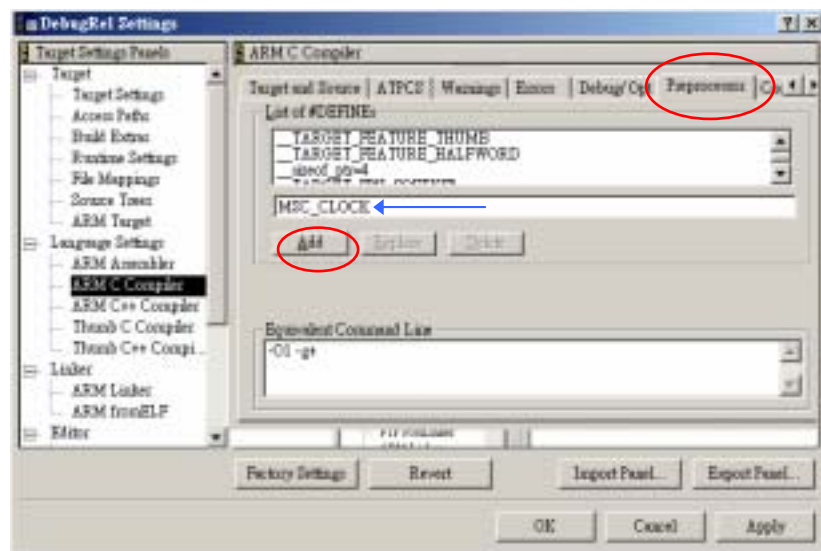
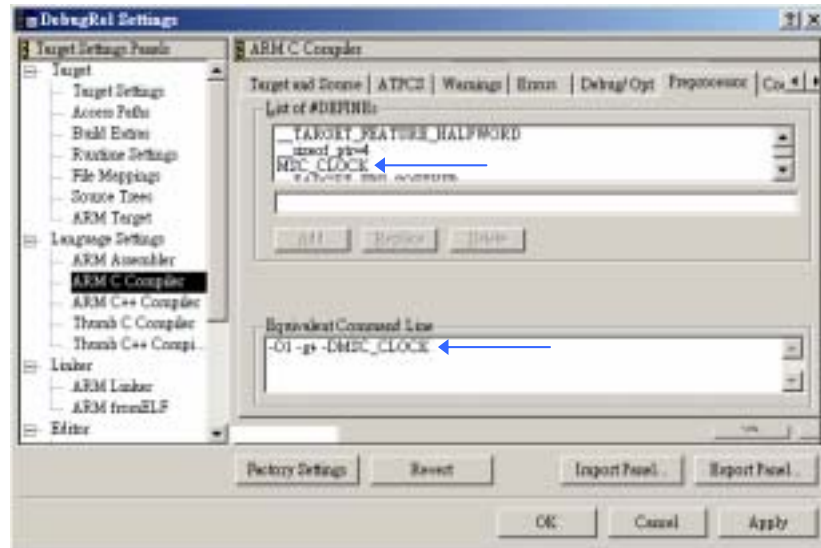

Figure 18. ARM C compiler preprocessor panel.
Figure 19. MSC_CLOCK defined.
- Click the **Preprocessor tab** to display a list of predefined macros (Figure 18). Type **MSC_CLOCK** into the text field beneath the **List of #DEFINES** and **click Add** to define the MSC_CLOCK macro. In Figure 19, the CodeWarrior IDE adds MSC_CLOCK to the List of #DEFINES and the **Equivalent Command Line** text box displays the compiler command-line option required to define MSC_CLOCK.